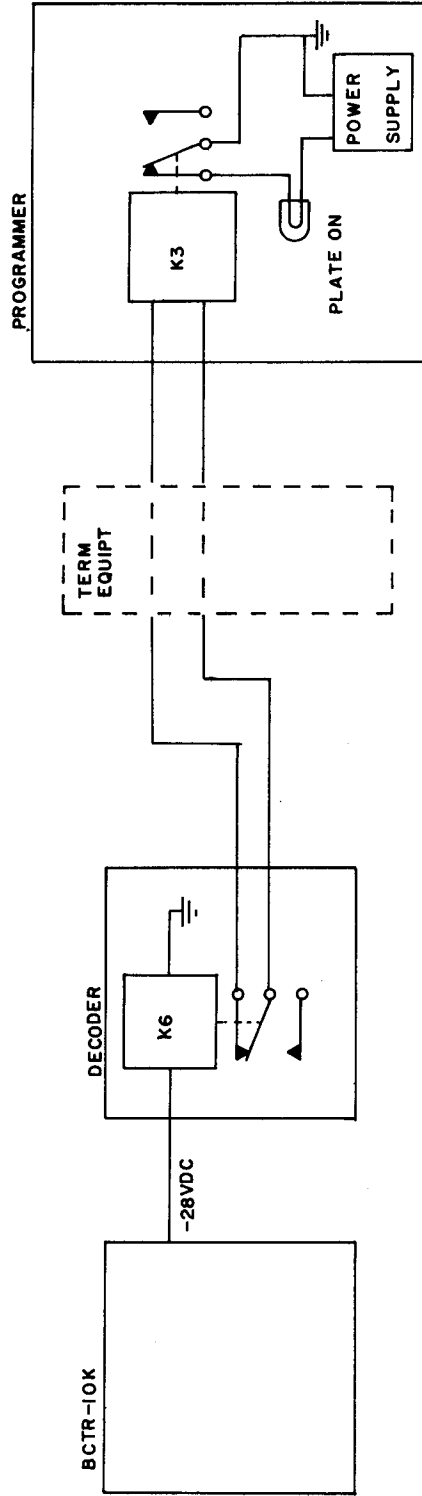

Figure 3-5 Plate ON Indication
e. PLATE ON READBACK INDICATION (Refer to Figure 3-5). - When high voltage is applied to the plate of the BCTR-10K transmitter the plate on indicator lamp on the front panel of the Programmer lights.